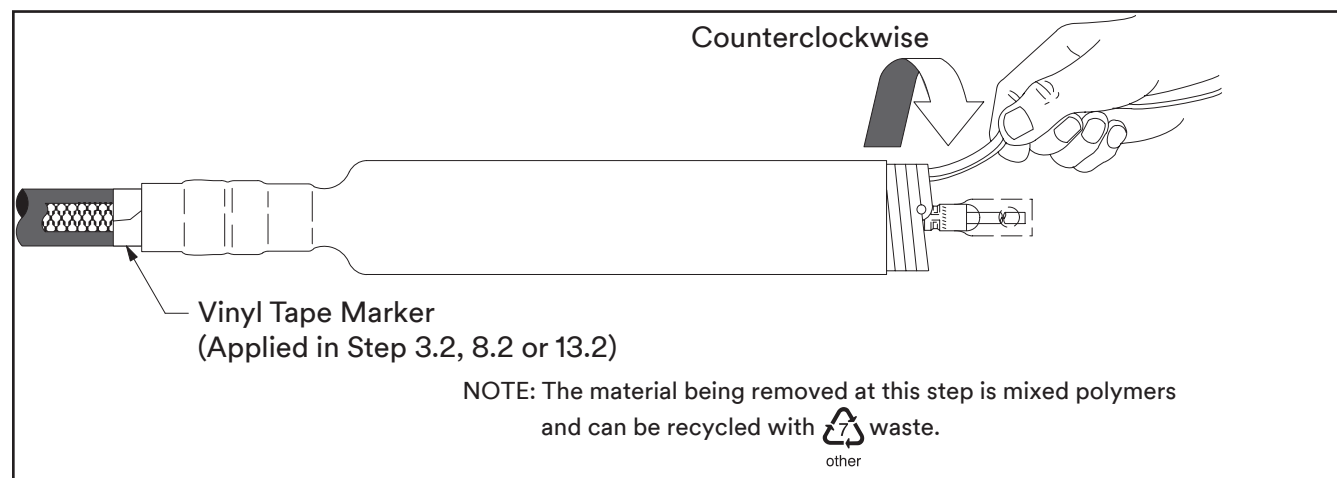

Figure 28
- 17.1 Slide the tubular termination body onto the cable and remove core. Make sure the termination body (not the core) is butted up to the edge of the vinyl tape marker previously applied (Figure 28). Pull the core while unwinding, counterclockwise, starting with the loose end (Figure 28). Be sure to alternate the pulling and unwinding actions (pull-unwind-pull-unwind-etc.) to help prevent the core material from binding up as the core is being removed.